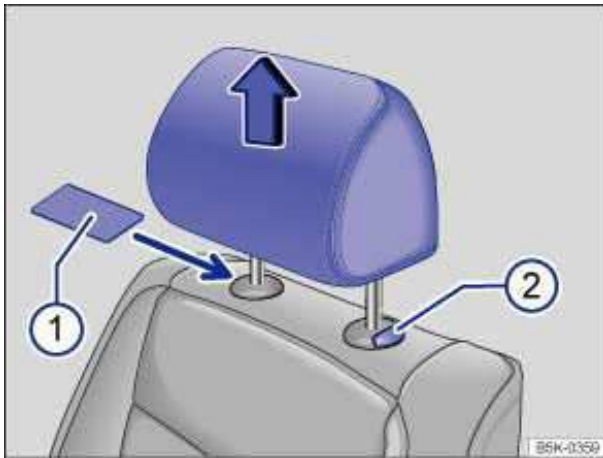

Fig. 42 Removing the front head restraints.
- Slide a flat object, such as a plastic credit card, underneath the right side of the cap on the right-hand seat guide rod ⇒ fig. 42 \(1\) to unlock the head restraint.